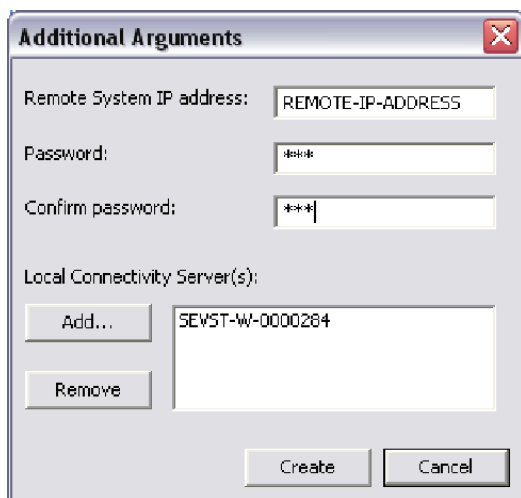

Figure 64. Additional Arguments Dialog Box
6. Click **Next** and the Additional Arguments dialog box shown in Figure 64 appears.
Arguments dialog box (Figure 64). Up to three Remote Access Clients can be configured.